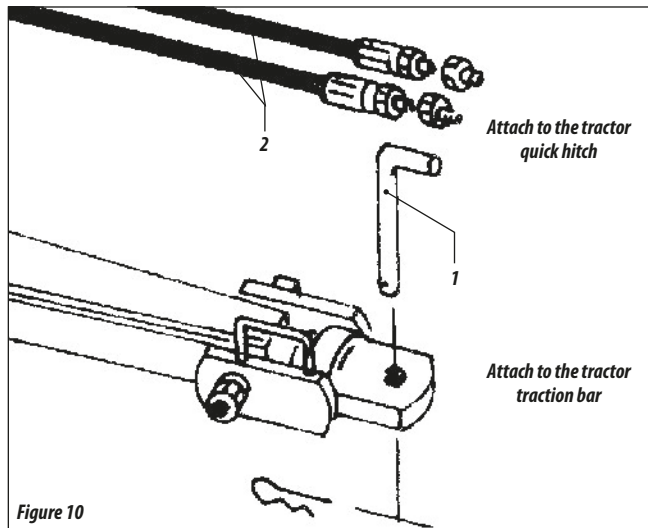

Figure 10
To hitch the grade into the tractor traction bar, it must be observed the alignment of the tractor, regulate the exact height of the hitch and use the pin (2) according to figure 10.